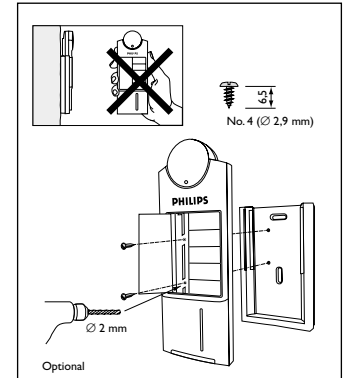

Figure 8b: locking the transmitter in the wall holder
- Fixation in wall holder	: two Parker screws in battery compartment. (see figure 8b)